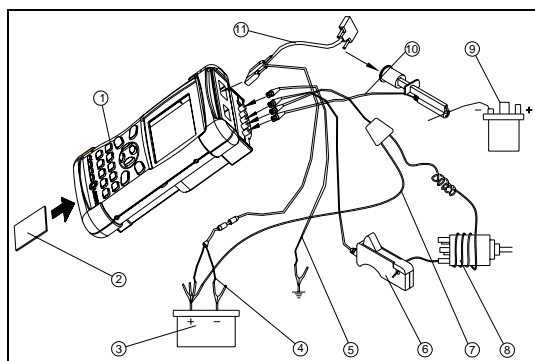

Fig.4-07
**CONNECTION 2:** The connection for ignition waveform test of engines with distributors is shown in Fig.4-07. This method is applicable to engines without secondary high-tension cores.